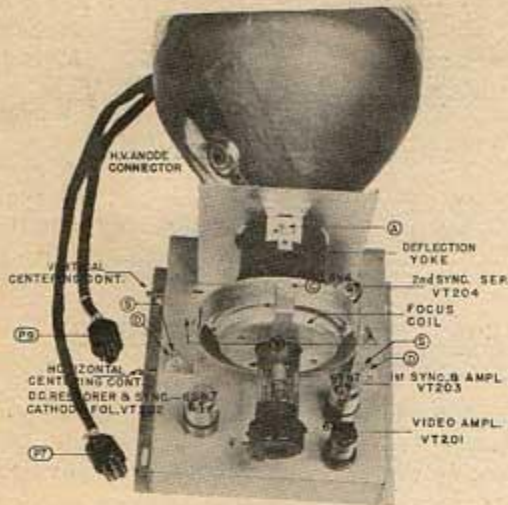

Fig. 3 - Picture Chassis
1. Remove side panel of picture box and take out the hold-down screw inside of picture box. This screw holds picture box to shelf during shipment. Carefully remove the cardboard shipping strips between Picture Box and cabinet by pulling the strips back. Remove the two hex head shipping screws (S) on the base of the Focus Coil Supports (See figure 3). Remove the two No. 8 hex nuts in the upper inside, front corners of the box and the two screws in the lower front outside surface. This allows removal of the front safety glass panel of the picture box.
3. Loosen the thumbscrew (A) and slide the deflection yoke towards the rear of the picture box and tighten. (See Fig. 3).
5. To check the alignment of the focus coil with the yoke, look through the front of the picture box. The yoke and focus coil must be in line. If the opening is blocked by the focus coil, loosen the thumbscrews (B), (C) and (D) Fig. 3). Raise, lower or rotate the focus coil until a clear opening is obtained. Tighten the thumbscrews in this position.
9. Insert the neck of the picture tube (with the anode connector 90° to the right, see Fig. 3) through the deflection and focus coils until the tube face is approximately flush with the front of picture box. If the tube sticks or fails to slip into place smoothly, investigate and remove the cause of the trouble. Do not force the tube.